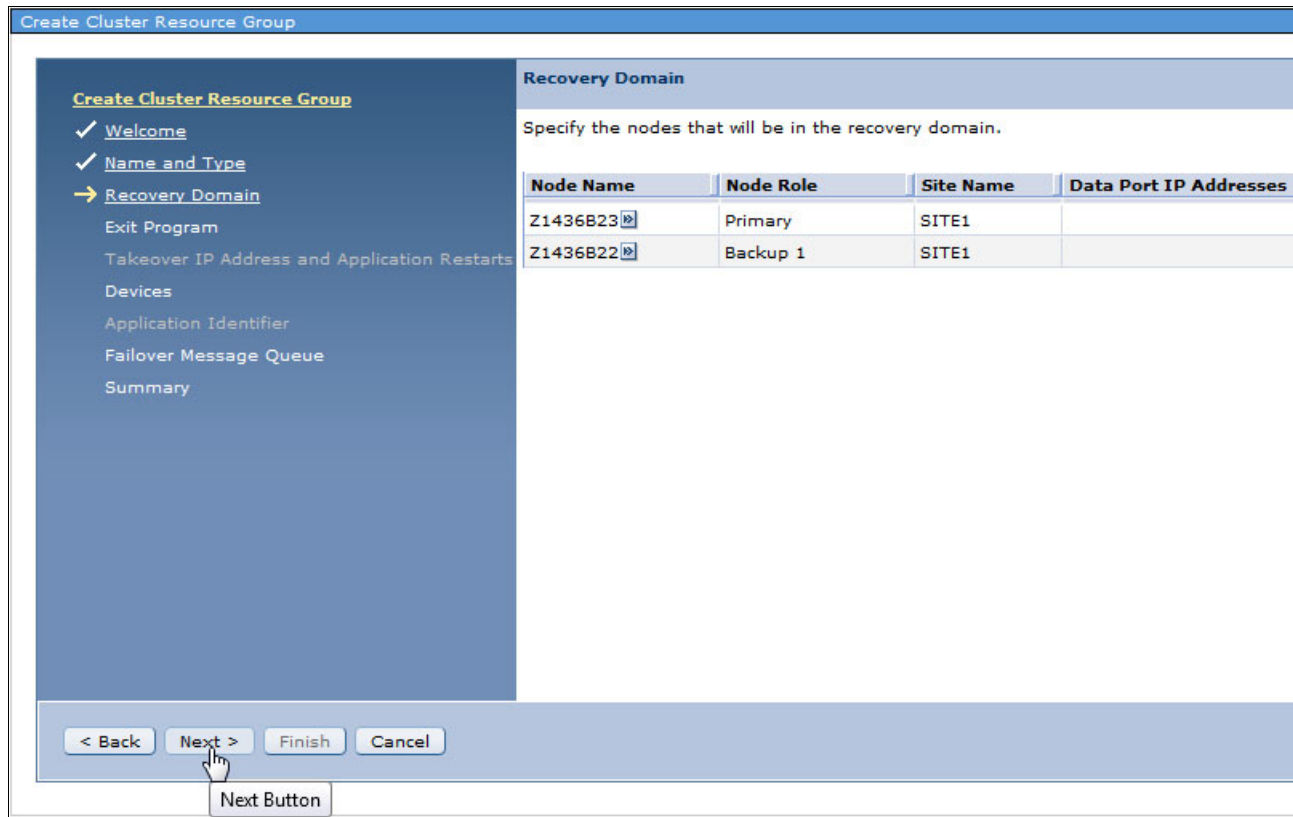

Figure 4-26 Create Cluster Resource Group, recovery domains created
23. The recovery domain overview shows the two cluster nodes with their node roles and site names, as shown in Figure 4-26. Click **Next**.